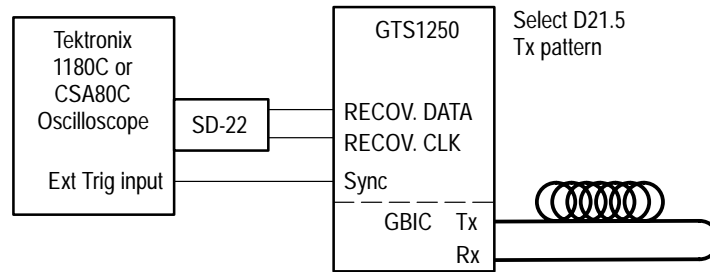

Figure 20: Recovered clock and data levels
3. Connect an SMA cable between the Sync output of the GBIC Test System and the oscilloscope Ext trigger input as shown in Figure 20.
4. Connect an SMA cable between the RECOV DATA output of the GBIC Test System and the upper SD-22 input of the oscilloscope, and connect another cable between the RECOV CLK output of the GBIC Test System and the lower SD-22 input of the oscilloscope as shown in Figure 20.